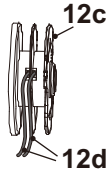

Fig. 25
5. Lead one end of the new trimming lines (12d) through the small eyelet on the trimming spool (12c) in direction of the arrows (Fig. 25).